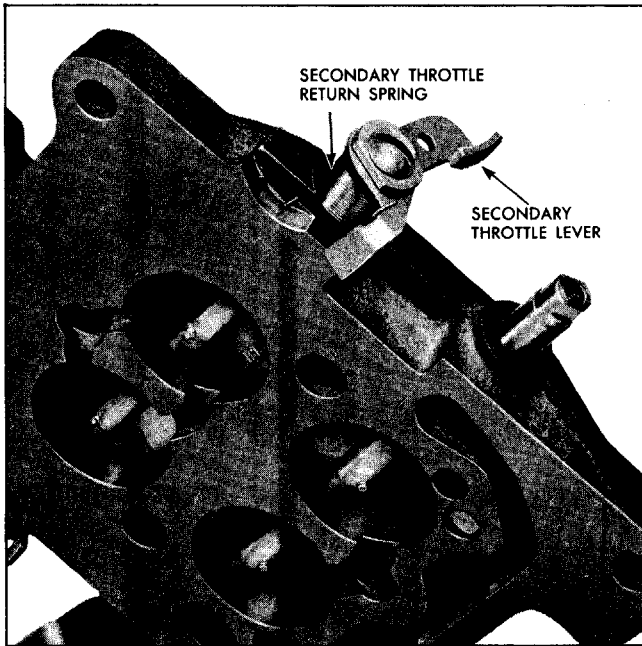

Fig. 6B-56 Proper Assembly of Secondary Throttle Lever
4. Install secondary throttle return spring and secondary throttle lever (Fig. 6B-56).